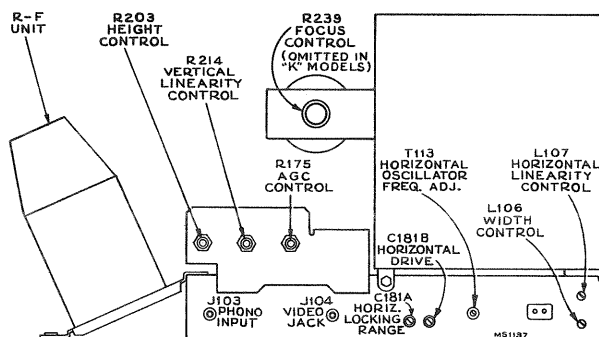

Figure 3—Rear Chassis Adjustments
If the receiver is overloading, turn R175 on the rear apron (see Figure 3) counter-clockwise until the set operates normally and the picture can be synced.
**FOCUS ADJUSTMENTS** (Disregard for "K" Models).—Set the brightness control for average raster brightness. Set the focus control R239 (see Figure 3) slightly counter-clockwise from the best focus position. Adjust the ion trap magnet for maximum brightness. Within the range of maximum brightness, a region of best focus will occur. Set the ion trap magnet within this region of best focus. Do not use the ion trap magnet as a centering adjustment.